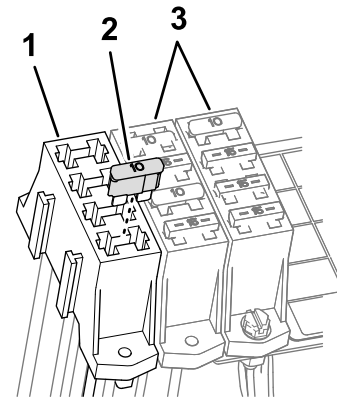

Figure 20
- Install the fuse into the socket that located in the auxiliary-fuse block (Figure 20).